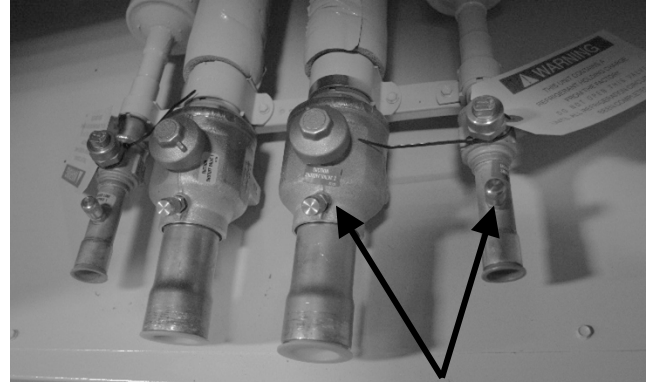

Figure 5 - CU evacuation connections
4. Connect the manifold set to the condensing unit with one hose on the suction line service valve, one hose on the liquid line service valve and if an extra Schrader valve is field installed on the suction line, connect a third hose (not shown). The vacuum pump must be connected to the manifold set using a 9.5 mm (3/8") vacuum rated hose. Figure 5 shows two circuits. Both circuits must be evacuated separately.